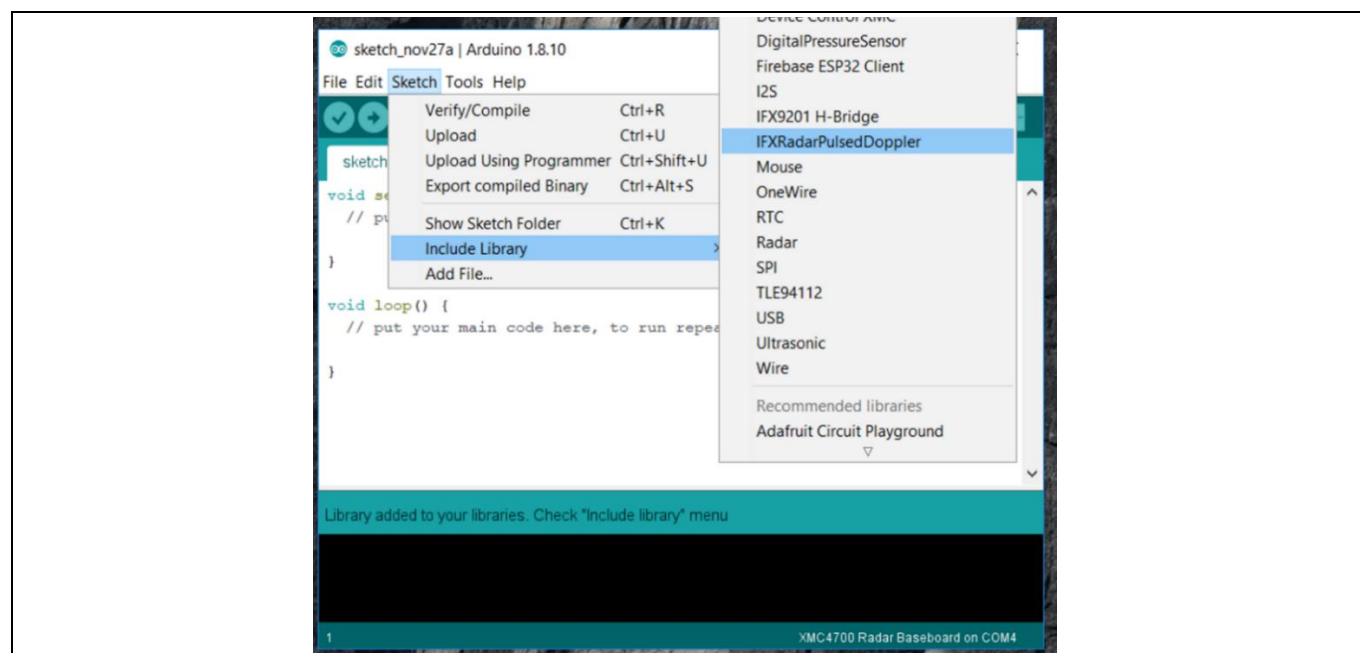

Figure 11 Including and using the Library in Arduino sketch
1. To use the Pulsed Doppler Radar Library in Arduino sketch, it must first be added via *Sketch > Include Library > IFXRadarPulsedDoppler* (Figure 11).